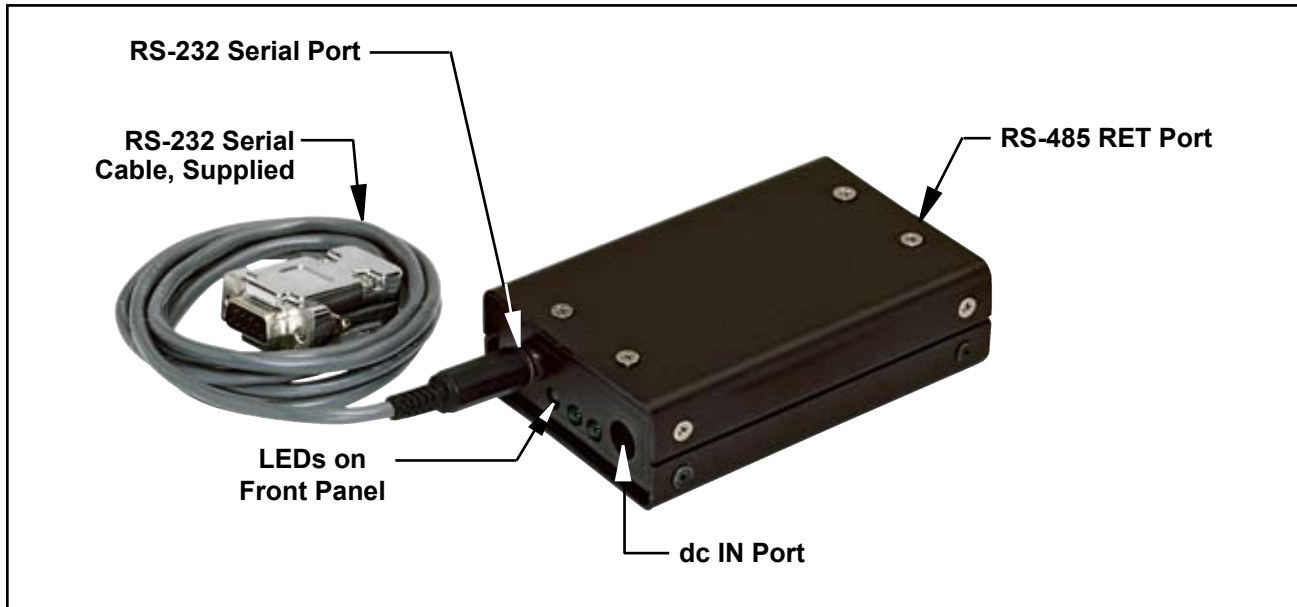

Figure 1-1. ATC200-Lite Controller with RS-232 Serial Cable Attached.
1. Connect the supplied 9-Pin RS-232 cable between the controller's RS-232 serial port and an available RS-232 serial port on the PC or laptop. See Figures 1-1.
2. Connect the supplied 24Vdc or 12Vdc power converter to the dc IN port on the controller (Figure 1-1). **IMPORTANT NOTE: The power converter used will affect both the 12Vdc and 24Vdc connector pins. For example, if a 24Vdc power converter is used, both the 12Vdc and the 24Vdc connector pins will transmit 24Vdc power.**
3. Connect the desired length RET control cable between the controller’s 8-Pin DIN connector (RS-485 RET port, located on the back panel) and the first component in the RET system. See Figures 1-1 and 1-2 and Section 10 for a brief description of system components.